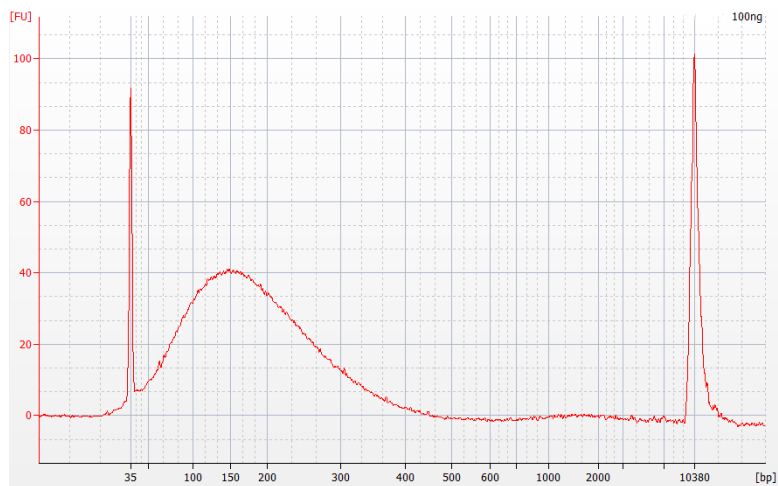

Figure 4 Analysis of 100 ng sheared DNA sample using a High-Sensitivity DNA Bioanalyzer assay.
- 7 Check that the electropherogram shows an average DNA fragment size of 150 to 200 bp. A sample electropherogram is shown in Figure 4.